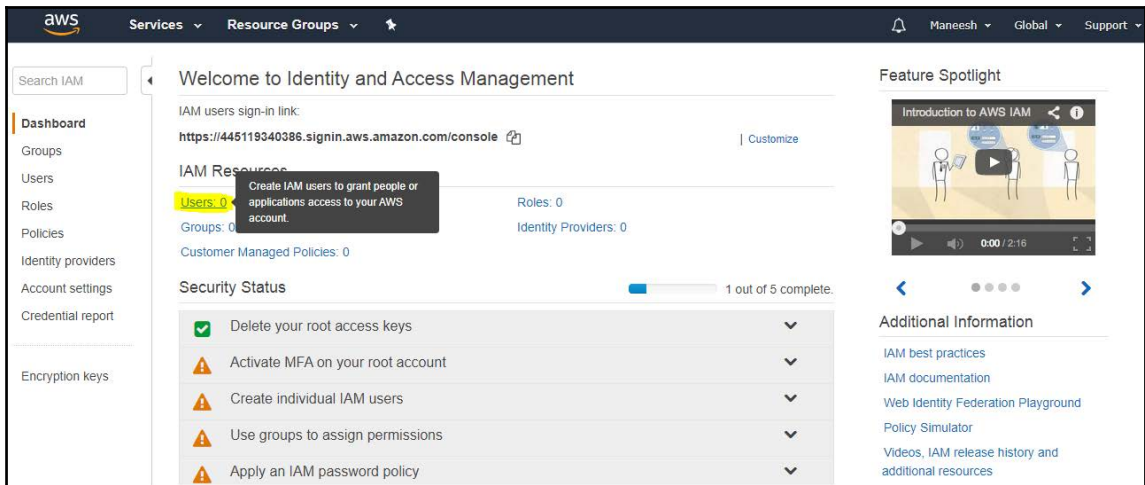

Figure 7.10
2. Under IAM, click on users as shown in *Figure 7.10*: